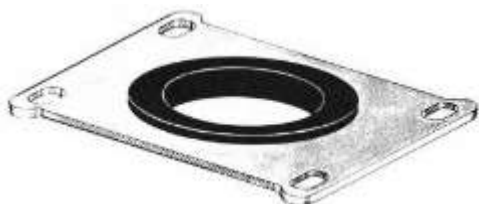
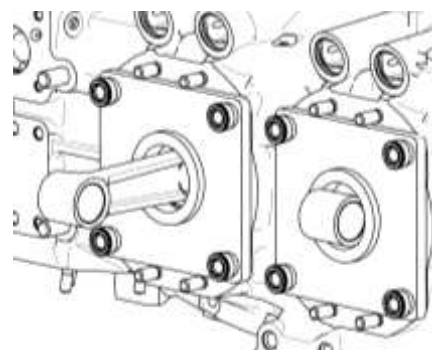

Figure 19
Figure 20
- C. Install Torque Hold-Down Plates (ST-222) (Figure 19) or equivalent as shown in Figure 20.